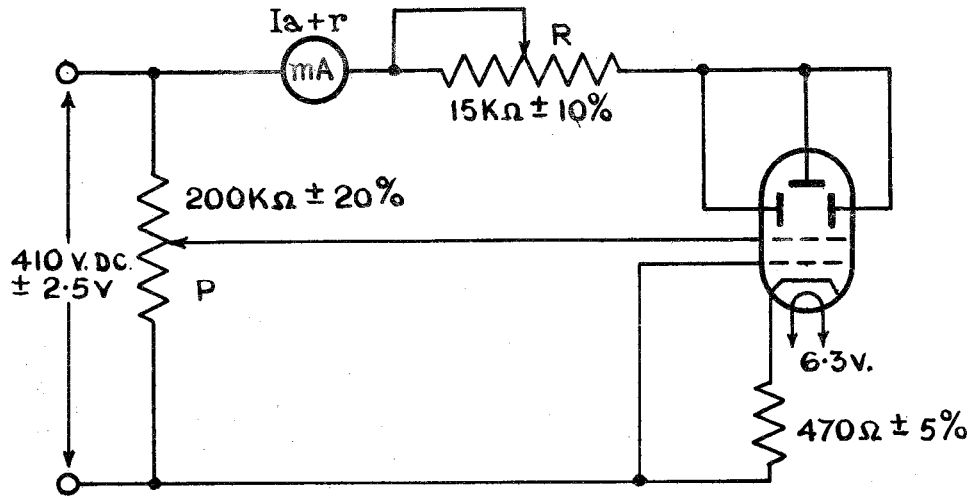

FIG.1
1. Tests 'd', 'e' and 'f' to be carried out with DC supply conditions as shown in figure 1 (Page 3), and in an approved tuning cavity fitted with an approved detector unit (an approved tuning cavity is given in MAP drawing BTR91428 and an approved crystal detector unit is given in MAP drawing DTR88502). The crystal output circuit is to be 100Ω resistive inclusive of meter.